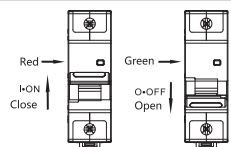

Figure 2 NB8-125 Closed and open states indicate Installation, commissioning and operation
5.1 Before installation, check whether the circuit breaker signs are consistent with the working conditions used. The indication of the closed and open state of the circuit breaker is shown in Figure 2 below.